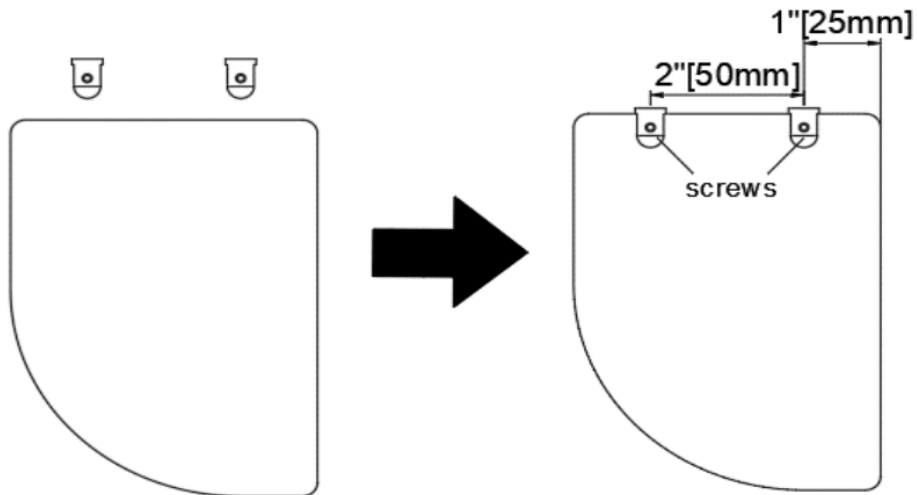

Fig 7
1. Install **Brackets [15]** to the **Glass Shelves [06]** according to the measurements in Fig 7.